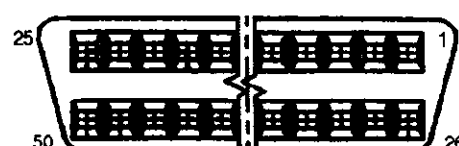

Figure 4
color code or continuity check, per customer requirements. See Figure 4.
- Changed Figure 4 to show only "D" shape of connectors and corrected positions of pin assignment